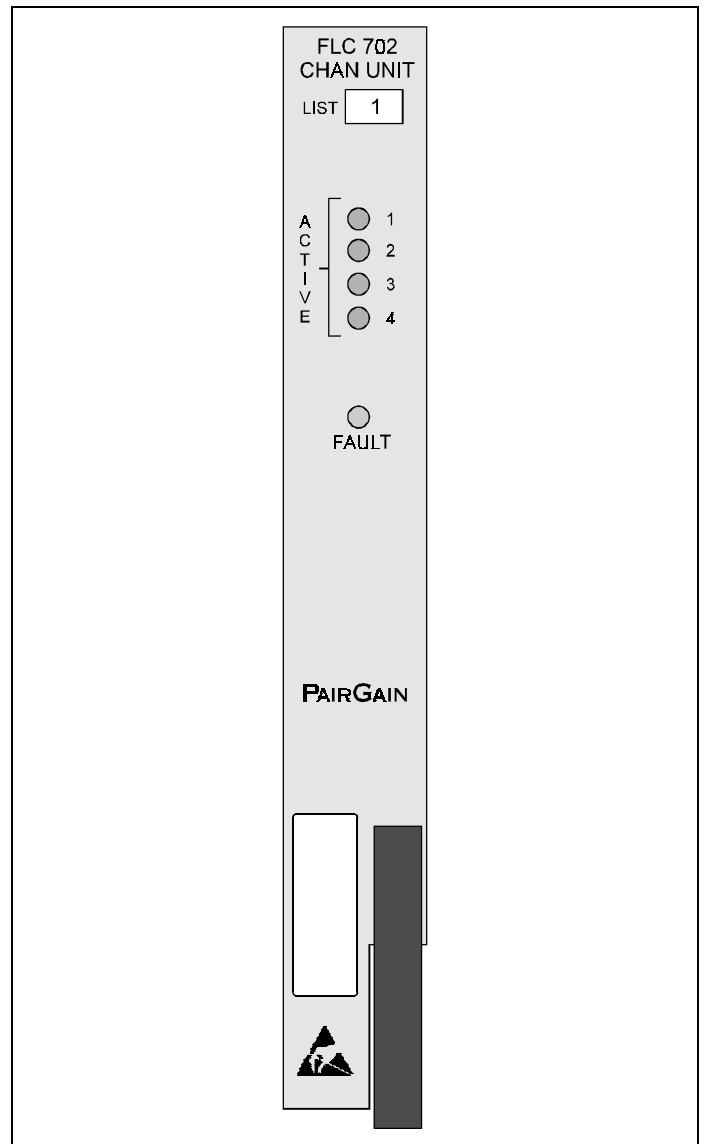

Figure 1. FLC-702 COT Channel Unit, List 1, Front Panel. The PairGain FLC-702 provides four POTS interfaces between the Central Office and PG-Flex.
7.01 The front panel of the FLC-702 Channel Unit contains the following indicators (see Figure 1):